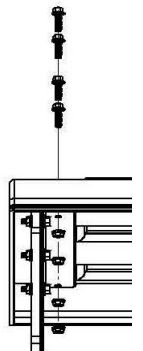

Figure 8
G. Drill four 5/16" holes through the fender using the holes in bracket PB5071 as a guide (Figure 8).